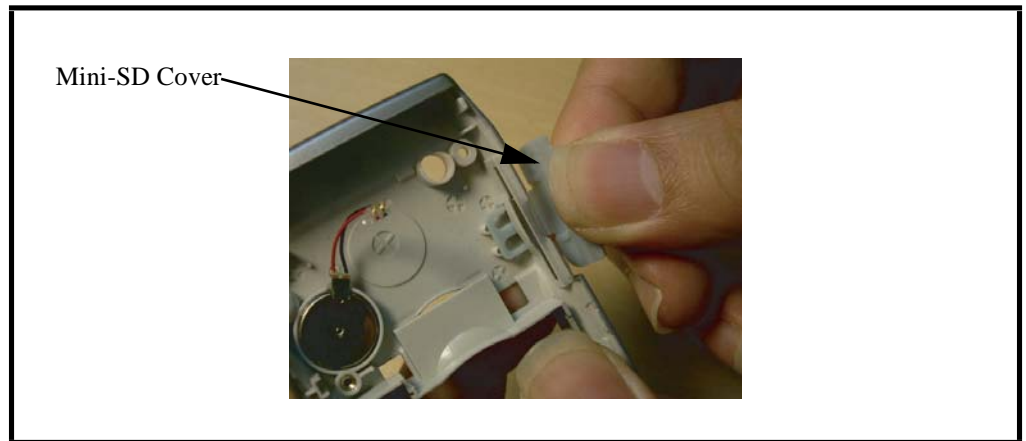

Figure 31. Removing the Mini-SD Cover
4. Remove the mini-SD cover from the phone as shown in Figure 31.